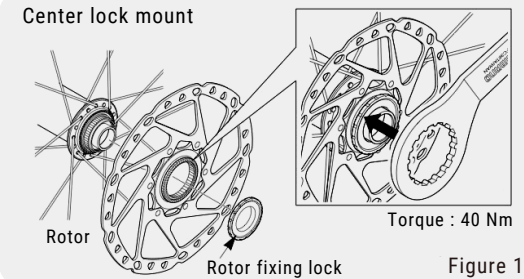

Figure 12
3. The installation of center lock type disc brake rotor is shown in Figure 12. Please follow the disc brake manufacturer's instruction for rotor installation.